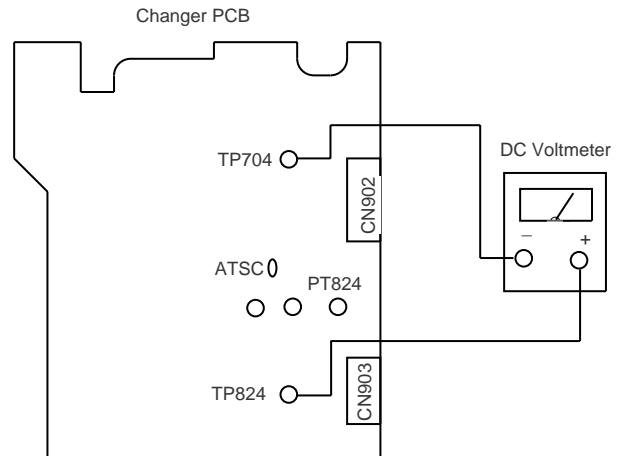

Figure 1. FE Bias Alignment
1.2 Connect a DC voltmeter to **TP824** (FE out) and **TP704** ($1/2 V_{cc}$). See Figure 1.